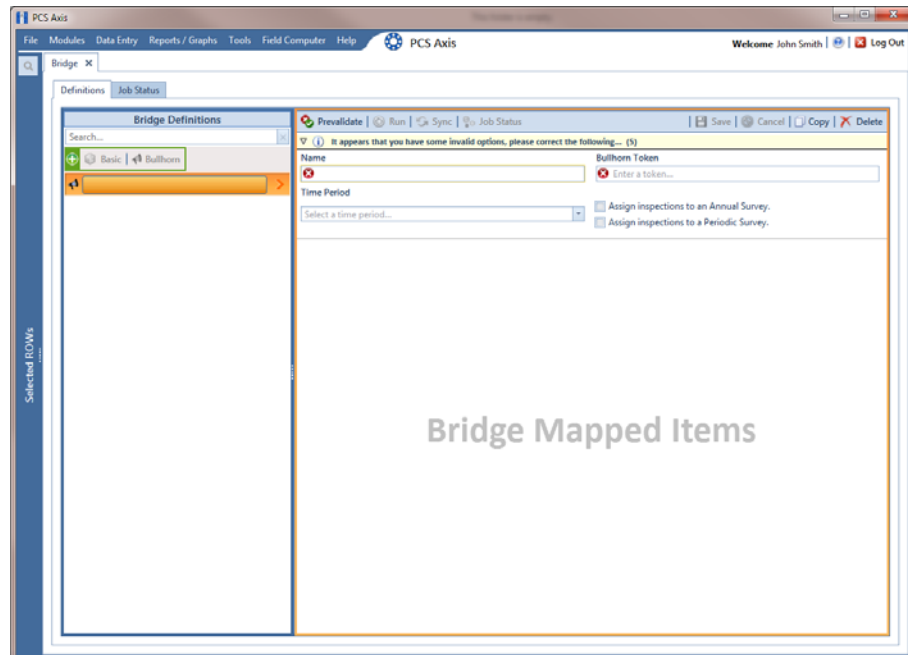

Figure 10-45. Bullhorn Definition Panel
- 3 Click  **Bullhorn** to open the Bullhorn definition panel (Figure 10-45).